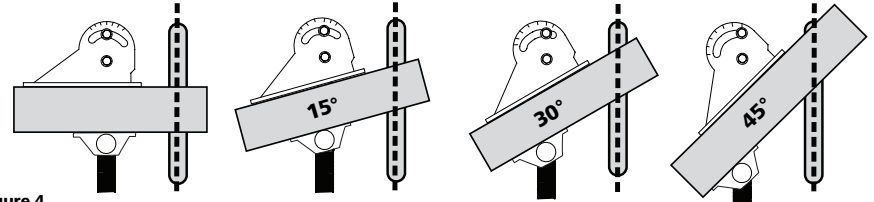

Figure 4
- The auxiliary stopper of the vice can be tilted to an angle anywhere between -30° to an angle of 45°. Loosen the two fixing screws on the auxiliary stopper and tilt it to the desired angle, then tighten the fixing screws again. (See Figure 4)